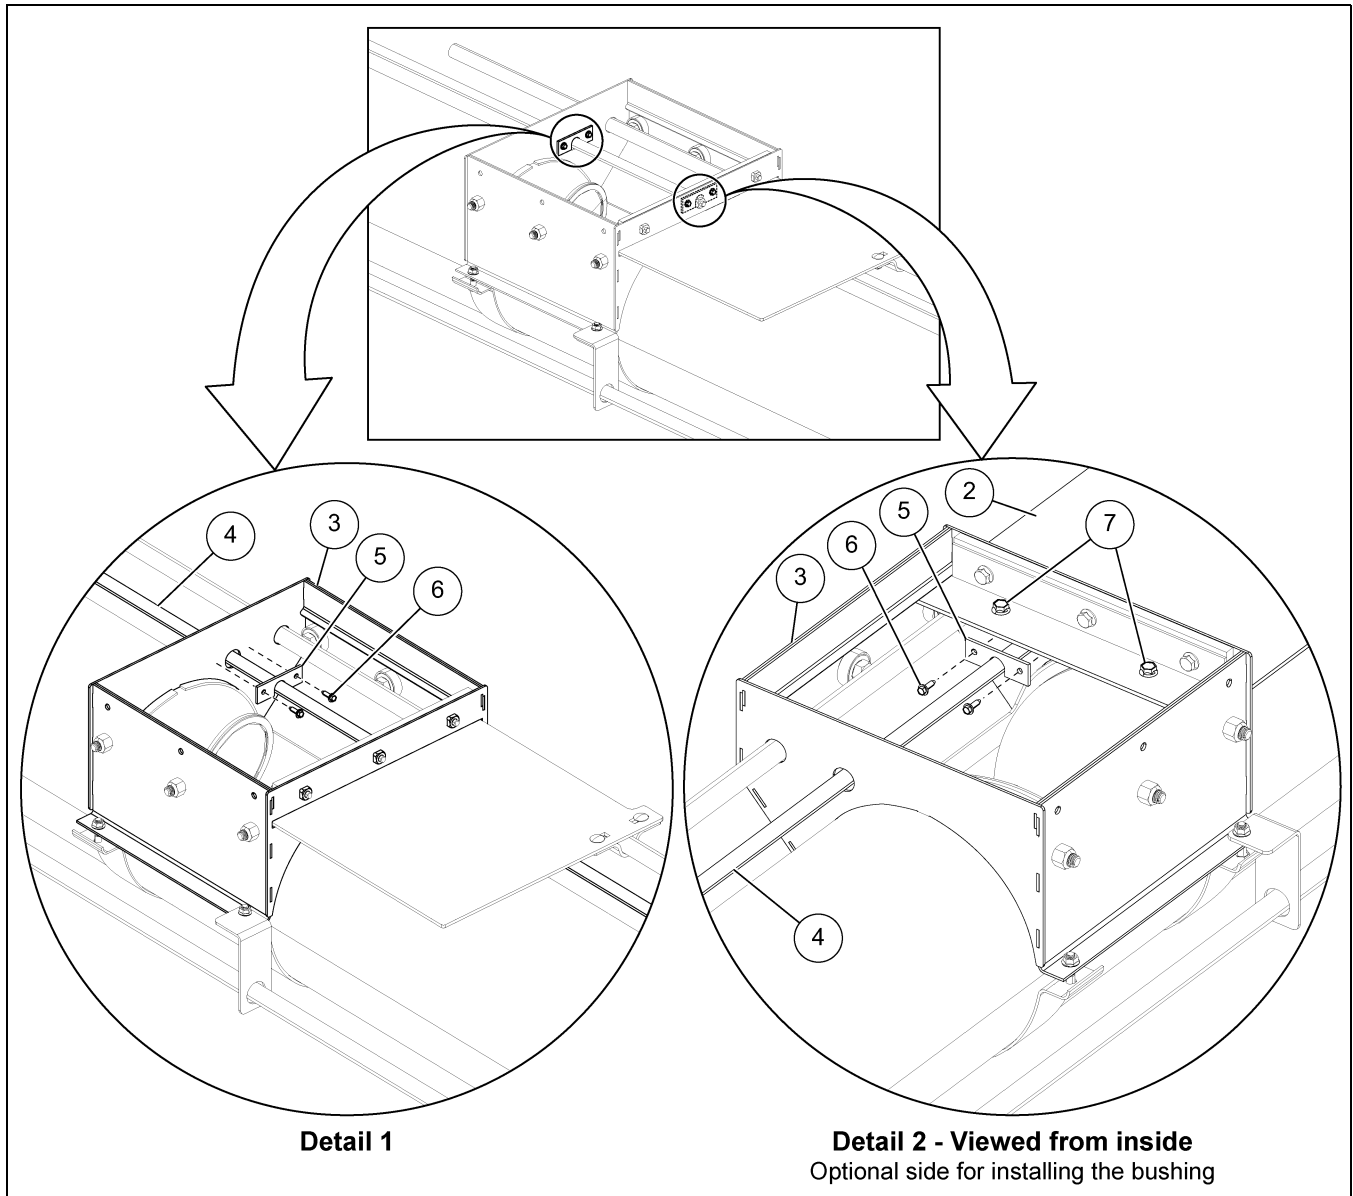

Figure 2 Installing the Control Rod Bushing
3. Align the control rod bushing (5) around the center well rod (4) and install it to the inside of the intermediate well (3) using two self-drilling screws (6) per bushing. (See Figure 2.)
NOTE: To install or replace the control rod bushing (5) for the optional side, remove the hardware (7) and pull the intermediate well gate (2) open to access the control rod hole. DO NOT pull the intermediate well gate (2) all the way through the intermediate well (3). (See Detail 2 in Figure 2.)